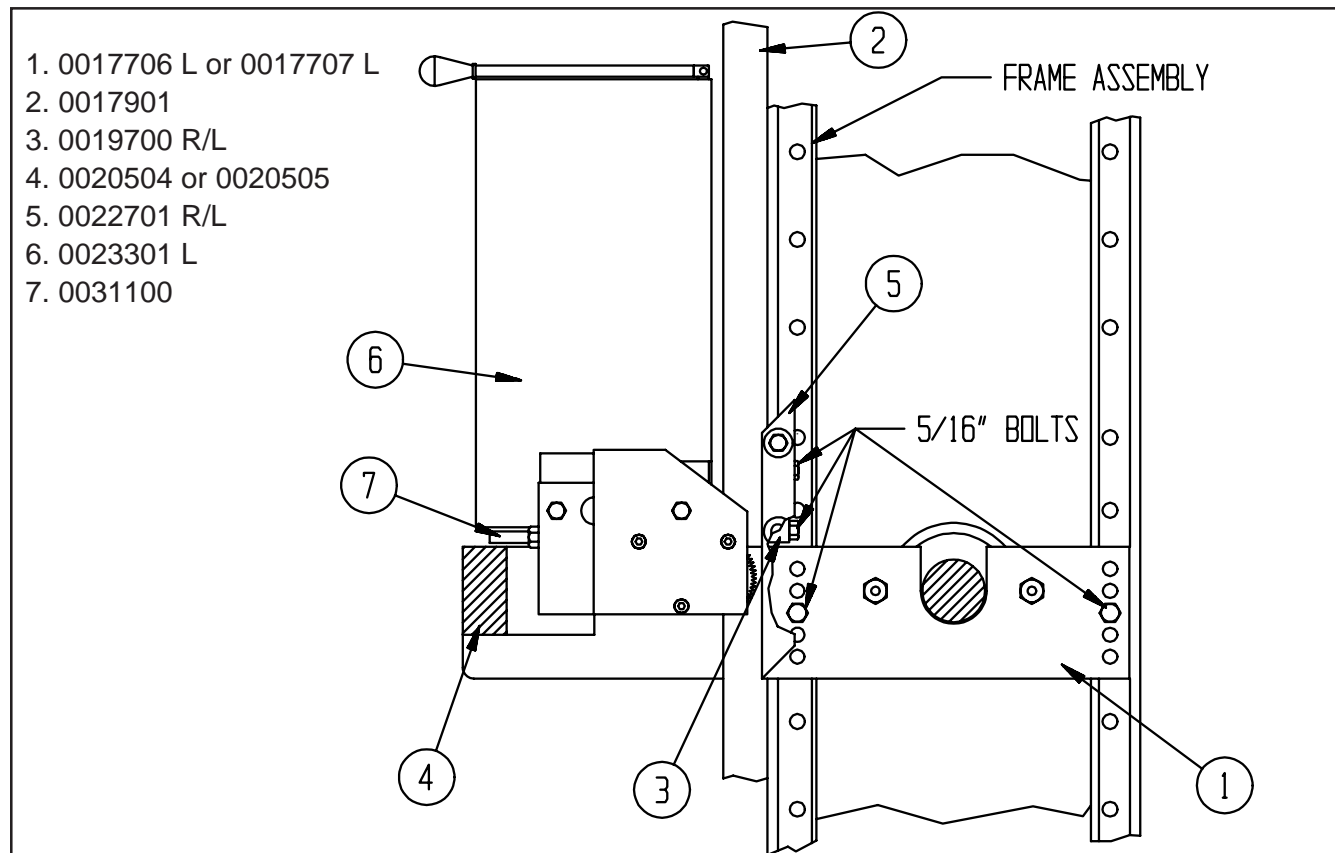

Figure 5-6A: Adjust Blank Feed Roll Assembly
To make this adjustment the Feed Chain Idle Sprocket Assembly should be loosened and free to slide on its mounts. Loosen the 5/16" bolts on the Melt Pot Clamp (0019700 R/L) located on the Vertical Guide Bars (0017901) and slide the pots up. Remove the Blank Feed Roll Mounting Bar bolts (4) and move the Feed Roll Assembly to fit the minimum dimension requirements. (Refer to Figure 5-6A for detail). Next slide the pot down until the Glue Pot Support Stud (0031100) rests on the Blank Feed Idle Roller Mount Bar (0020504, Standard Base.....0020505, Wide Base). Tighten bolts and readjust the Chain Idle Sprocket taking up all the slack.